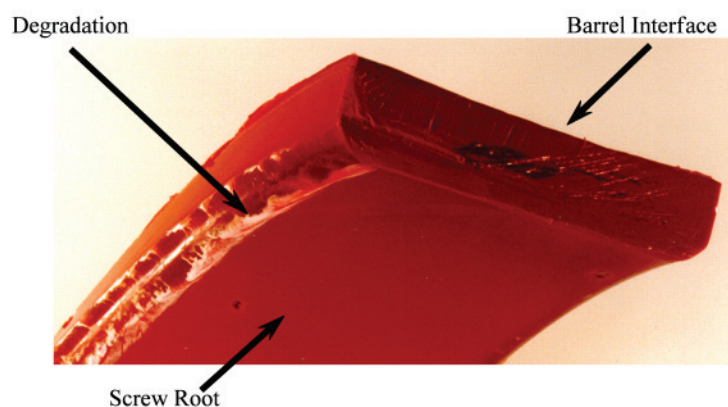
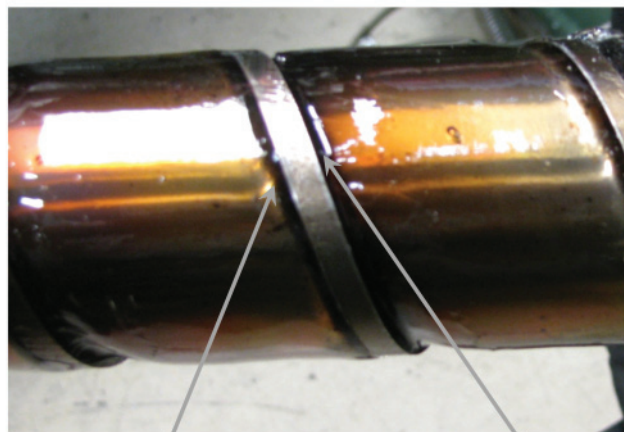

Figure 3: A Maddock solidification experiment revealed degradation at the pushing flight radius for LLDPE resin extrusion¹⁰.
Figure 4: Photograph of a screw that was pushed out hot from the barrel, revealing resin degradation at the flight radii due to Moffat eddies.
The Moffat eddy shown in **Figure 2** can cause the degradation of thermally sensitive resins. For example, degradation was observed at the flight radii for two different extrusion screws used to produce blown film from linear low density polyethylene (LLDPE) resins as shown in **Figures 3** and **4**. In both cases, degradation gels were observed in the extruded film products. A Maddock solidification experiment [9] was performed on the first case where screw rotation was stopped, full cooling was applied to the barrel, and the resin was solidified in the screw channels. Next, the screw and solidified resin were pushed out of the barrel and the solidified resin was removed from the screw. The solidified resin is shown in **Figure 3** along with the degraded resin at the radii of the flights. In the second case, resin flow to the hopper was stopped and the screw was allowed to rotate until resin flow at the die stopped. Next, the screw was removed hot. The photograph in **Figure 4** shows degraded resin at both the pushing and trailing flight radii.
The Moffat eddies formed because the flight radii were too small for the application. The flight radii (R) should be specified relative to the local depth of the channel (H) as shown in **Figure 5**. The ratio R/H is key to eliminating Moffat eddies. For the cases shown in **Figures 3** and **4**, the R/H was about 0.3 to 0.4. New screws with R/H values of 1.0 completely eliminated the degradation and Moffat eddies.
Plant personnel decided to remove the screw and inspect for locations where the degraded resin was originating. The screw was removed hot using the procedure detailed previously and used for the screw in **Figure 4**. Resin degradation due to Moffat eddies were clearly visible at the flight radii in the metering section of the screw. The screw and degradation was very similar to that shown in **Figure 4** except the level of degradation was considerably less. The R/H in the metering section was visually estimated at 0.4, a value too low for this resin. The R/H on the original screws was about 1.0 in the metering section, and resin degradation due to Moffat eddies was not observed in the parts made from the original screws.